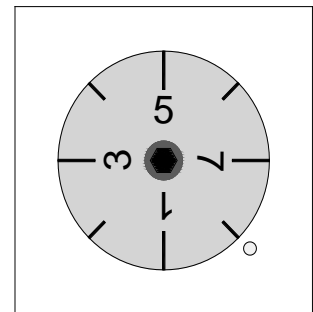

figure 37
The threading dial indicator (27) shown in (fig. 37) is located on the right hand side of the apron. It is used when cutting imperial threads and tells you when to engage the half nut to begin the threading process. The indicator face has eight lines and four numbers printed on the dial. An indicator pin is located at the bottom of the rim. The dial is mounted to a shaft that has a small gear mounted at the opposite end. By loosening a socket capscrew you can pivot the housing to either engage or disengage from the leadscrew. When engaged, the dial will turn as the spindle rotates. If the dial does not turn, re-adjust the housing position.